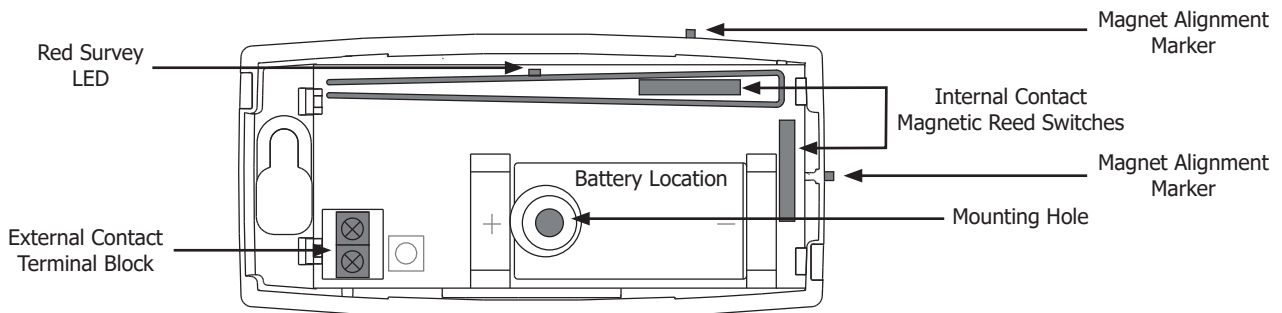

Figure 4: Internal and External Contact Points
4. Hold the transmitter base in place with a magnet alignment marker near where you plan to mount the magnet. See Figure 4 for magnet alignment marker locations.
8. Install the battery in the battery location shown in Figure 4.
3. Place the 3.0V lithium battery in the holder as shown in Figure 4 and press into place.